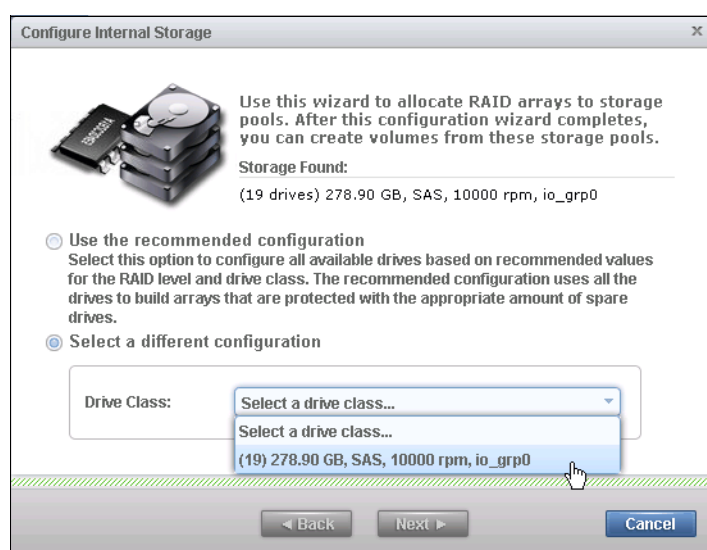

Figure 7-18 Select a drive class
1. Click **Select a different configuration** and select the **Drive Class** you want to configure (Figure 7-18).